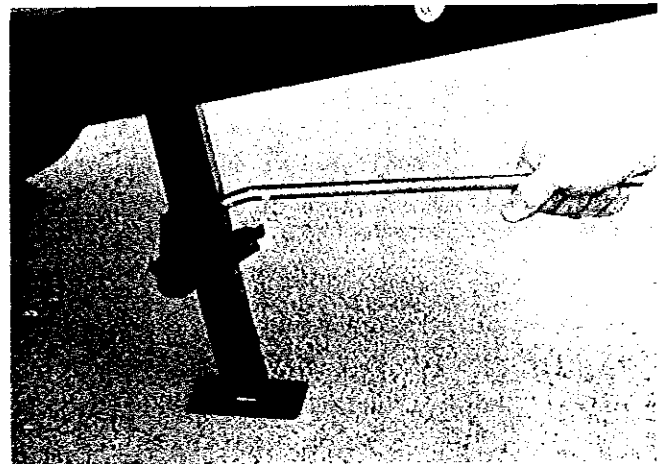

FIGURE 9
3. Remove the stabilizer jack handle from the recommended storage location. Making sure the handle is inserted through the rear hole, apply downward pressure to extend the inner legs of the stabilizer jacks to stabilize the trailer. See Figure 9. Remove jack handle and stow.